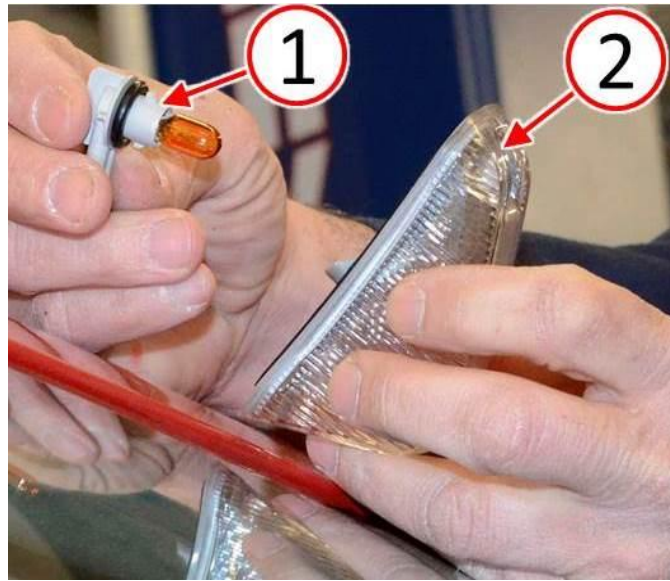

Fig. 8 Replace Roof Clearance Lamp Lens
3. Rotate the lamp bulb socket (1) 1/4 turn counter-clockwise then remove the bulb socket (1) from the lamp lens (2) (Fig. 8).
4. Discard the lamp lens (2) (Fig. 8).
8. Install the lamp bulb socket (1) on the vehicle roof to the NEW lamp lens (2) and rotate the bulb socket 1/4 turn clockwise to secure the bulb socket to the lens (Fig. 8).